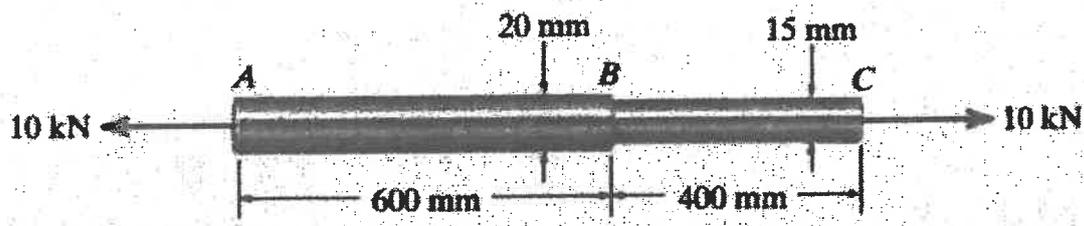

Figure 3: Aluminum Rod Cylinder
*Refer Below - Figure 3 : Aluminum Rod Cylinder.*